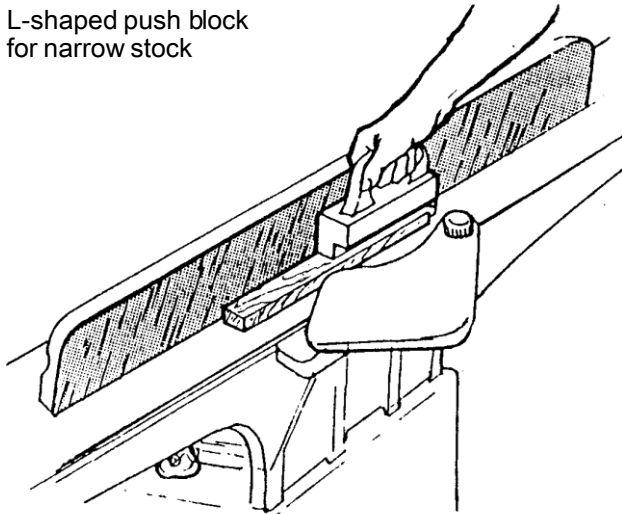

Fig. 20
Never surface pieces shorter than 12 inches or thinner than 3/8 inch without the use of a special work holding fixture. Never surface pieces thinner than 3 inches without the use of a push block. On stock 8" to 12" long use a single two-handed push block (Fig. 18). On stock longer than 12 inches use two push blocks (Fig. 19). With narrow stock use the type push block shown in Fig. 20. When surfacing short stock over 4 inches wide, use two (2) push blocks to guide material over cutterhead (Fig. 21).